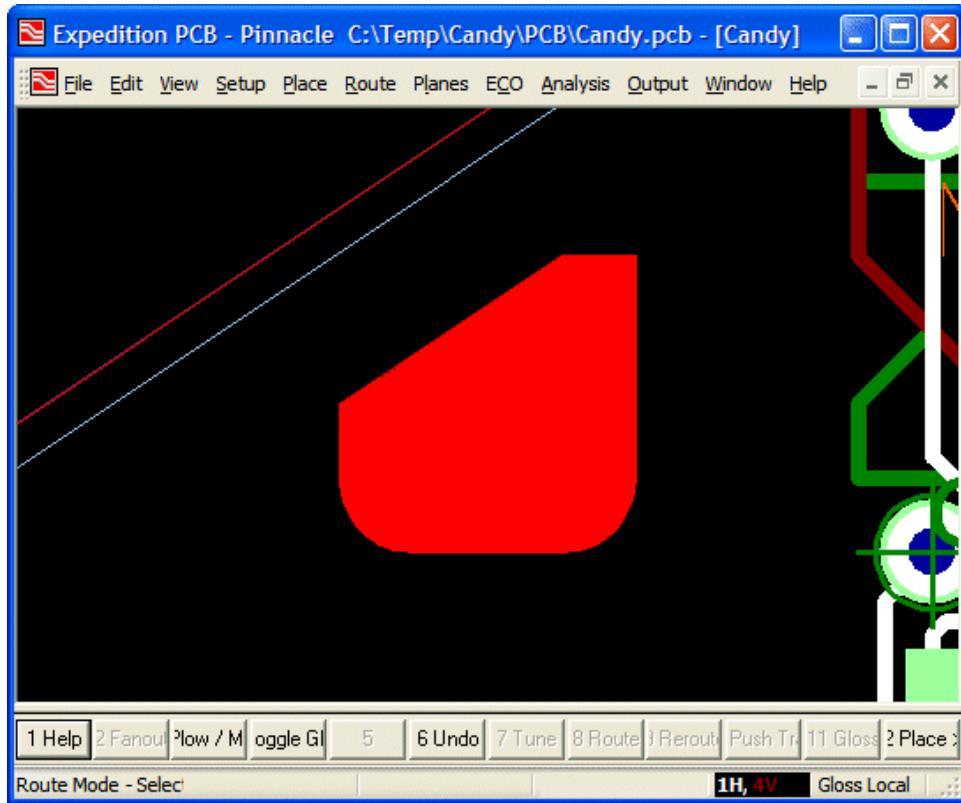

Figure 12-23. Using the `ReadPointsArray.vbs` script to read a text file and generate/display a graphical element.
- 3) Drag the *ReadPointsArray.vbs* script from your C:\Temp folder, drop it on top of the design, and observe the resulting shape appear as illustrated in Figure 12-23.